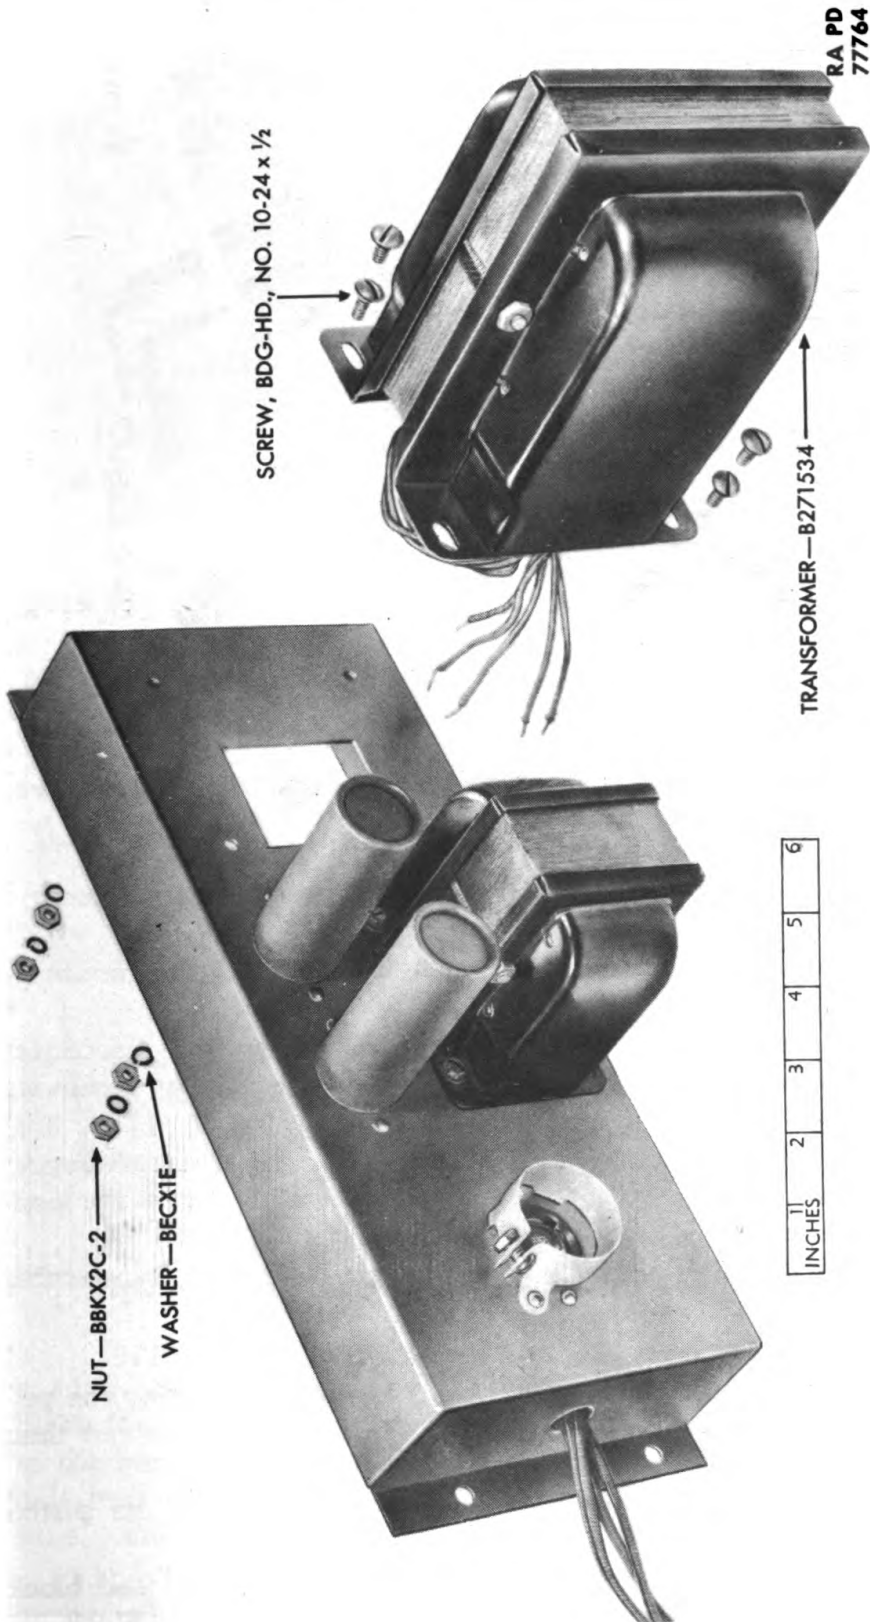

Figure 100 — Removal of Power Transformer From Power Supply Chassis
(13) Unsolder the power transformer (fig. 100) connections. Remove the power transformer from the power supply chassis after removing the four hexagonal nuts, four lock washers, and the four binding head screws.